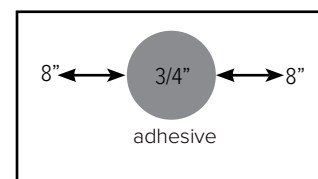

Figure 2.4.3
2.4.3 Apply adhesive on vertical flat Reveal as shown in Figure 2.4.3.